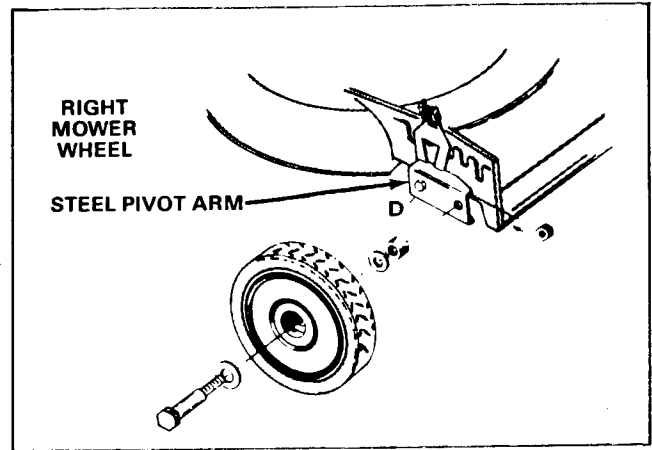

Figure 86
18. See Figures 86 and 87. Reinstall the right side wheel with new shoulder bolt, 1/2" flat washer, 3/8" flat washer, and frame spacer, and locknut, but not using a stop bracket.